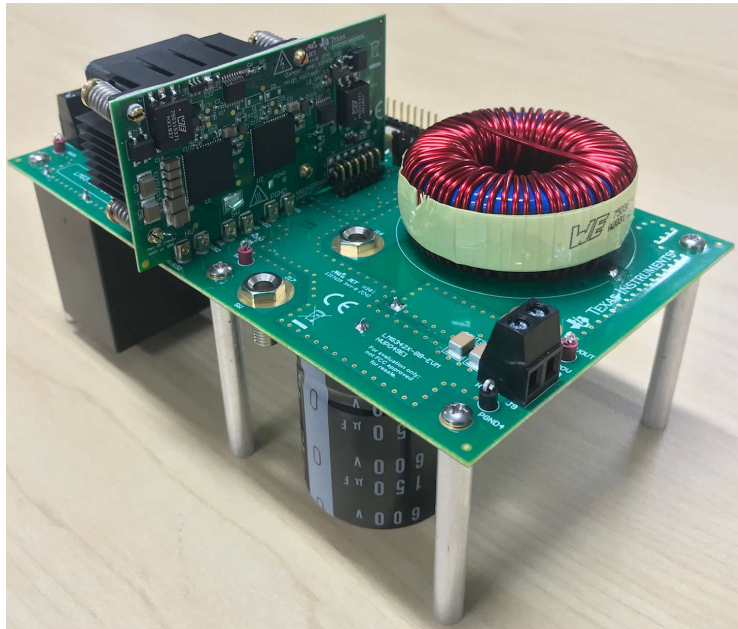
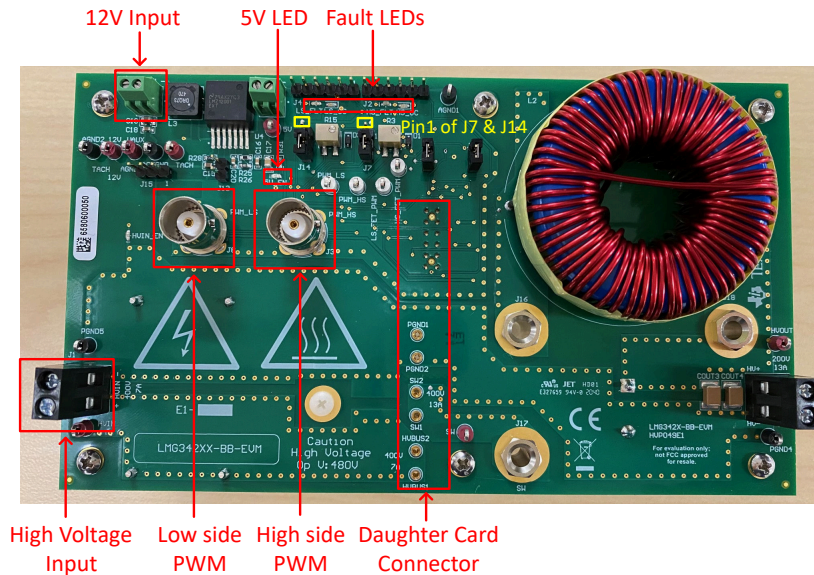

Figure 2-4. LMG342X-BB-EVM Motherboard With LMG2640EVM-090
Figure 2-5. Connector and LEDs on the LMG342X-BB-EVM
1. Connect the LMG2640EVM-090 to LMG342X-BB-EVM as shown in 2 Figure 2-4. The area for connection on the mother board is shown in Figure 2-5.
6. If two complementary PWM signals with dead time are provided to J3 (high-side PWM) and J8 (low-side PWM), then connect pin 1 to pin 2 for header J7 and J14 (pin 1 of J7 and J14 are indicated in Figure 2-5). This action allows the two PWM signals to directly control the high-side and low-side devices.
9. Connect the signal generator output to the LMG342X-BB-EVM PWM input as shown in Figure 2-5.
10. Connect 12V, 2A DC power supply to the LMG342X-BB-EVM 12V bias supply as shown in Figure 2-5.
11. Connect the high voltage power supply to the LMG342X-BB-EVM high voltage input for buck mode (high voltage) as shown in Figure 2-5.